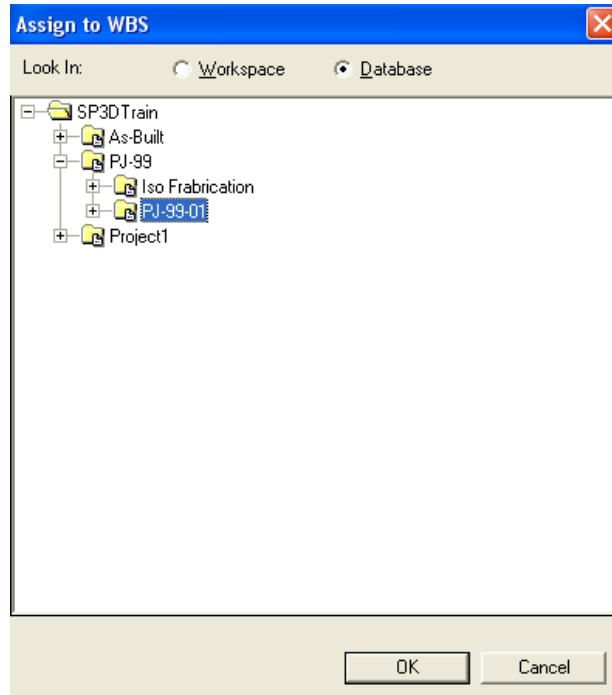

Figure 4: Assign to WBS Dialog Box
13. Expand the project **PJ-99** and select the WBS item **PJ-99-01**, as shown in Figure 4.